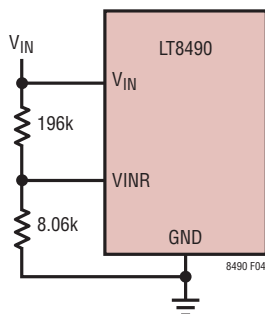

Figure 4. VINR Resistor Divider Circuit
VINR DIVIDER NETWORK: The LT8490 can be powered by a solar panel or a DC power supply. As discussed later in DC Supply Powered Charging, the VINR pin must be pulled low when being powered by a DC supply. Otherwise, VINR must be connected to the resistor divider network as shown in Figure 4.
**SELECTING POWER SUPPLY MODE:** When powered by a DC voltage source, the VINR pin must be pulled below 174mV (typical) to activate power supply mode. This disables unnecessary solar panel functions and allows the LT8490 to operate properly from a DC voltage source. If the application is never powered by a solar panel, VINR can be grounded. If the application is only powered by a solar panel, then connect VINR as shown in Figure 4. Otherwise, see the Optional DC Supply Detection Circuit section for a method to pull down the VINR pin when a DC supply is detected.